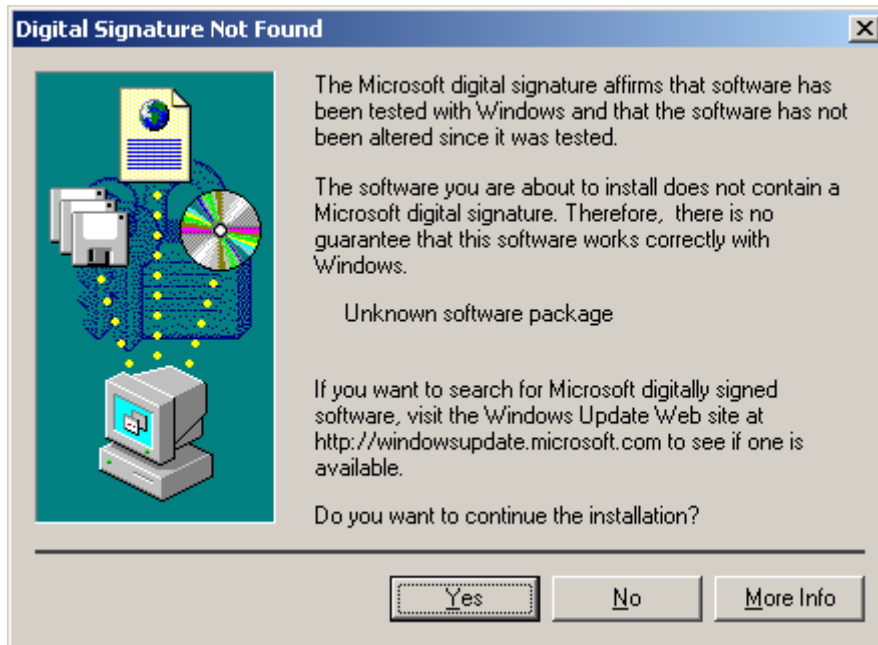

Figure 6-4: Audio Driver Digital Signal
Step 4: At this stage the **Digital Signal Not Found** screen appears (**Figure 6-4**). Click **YES** to continue.